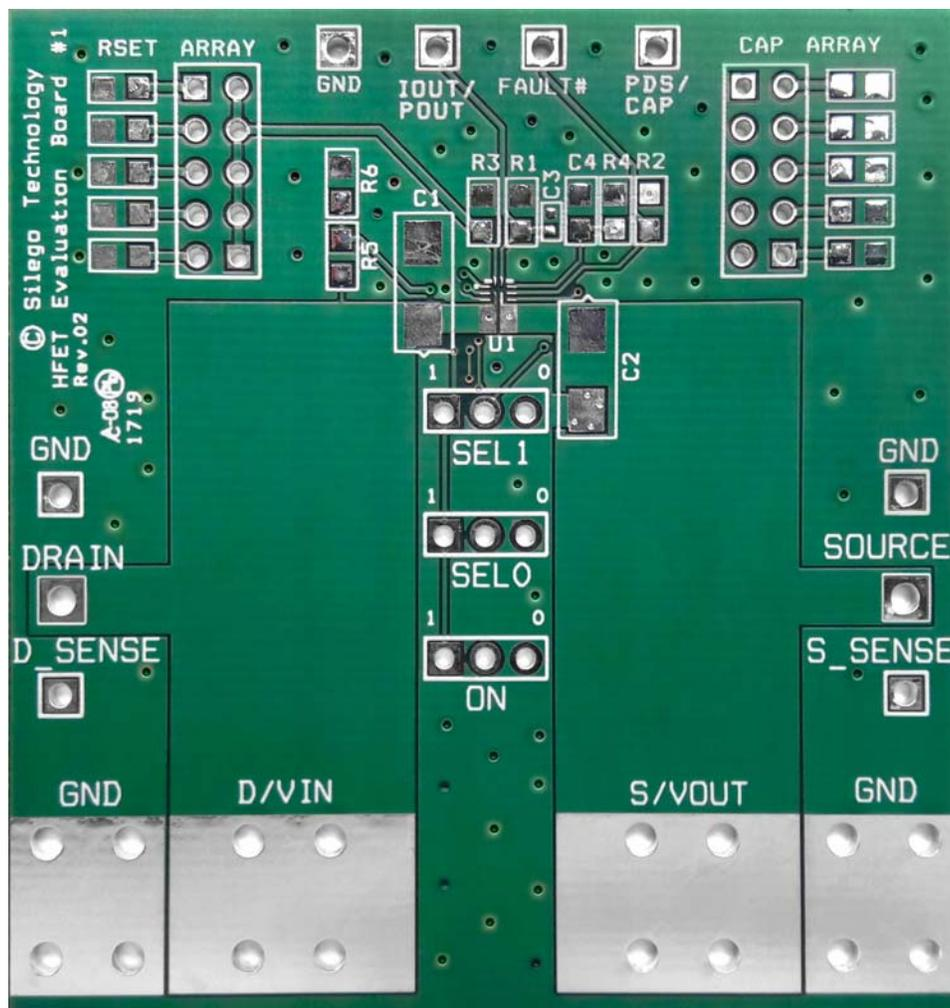

Figure 26. SLG59H1017V Evaluation Board
1. Since the V_{IN} and V_{OUT} pins dissipate most of the heat generated during high-load current operation, it is highly recommended to make power traces as short, direct, and wide as possible. A good practice is to make power traces with absolute minimum widths of 15 mils (0.381 mm) per Ampere. A representative layout, shown in Figure 26, illustrates proper techniques for heat to transfer as efficiently as possible out of the device;
A HFET1 Evaluation Board for SLG59H1017V is designed according to the statements above and is illustrated on Figure 26. Please note that evaluation board has D_Sense and S_Sense pads. They cannot carry high currents and dedicated only for $R_{DS(ON)}$ evaluation.